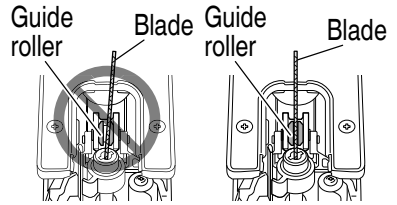

Fig. 3
- Confirm the blade located between the groove of roller. (**Fig. 3**).